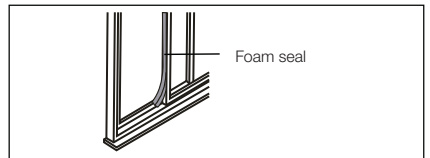

Fig. 21
- Cut the foam seal to an appropriate length and seal the open gap between the sliding sash and outer window sash, as shown in Fig.21.